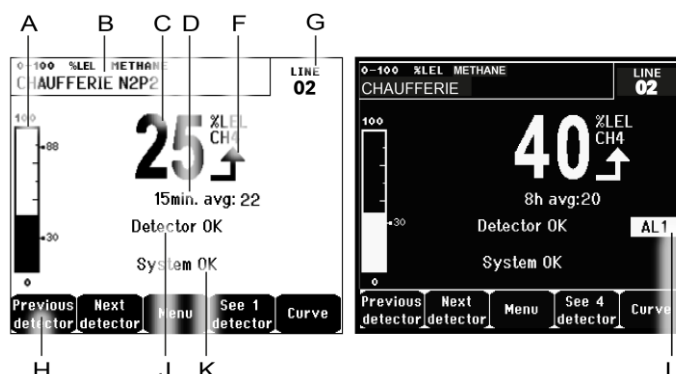
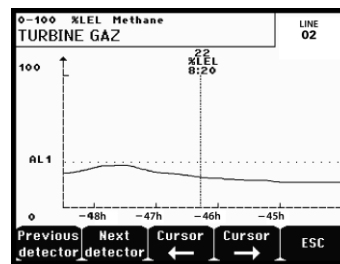

Figure 35: Example of the measurement display in normal mode and in grayscale mode
Figure 36: Example of a curve display screen.
H.	Function keys. <ul style="list-style-type: none"> ■ Previous detector: Display of measurements of previous detector; scanning of all the detectors on all the lines. ■ Next detector: Display of measurements of next detector; scanning of all the detectors on all the lines. ■ Menu: Display of main menu See paragraph "Main menu" on page 35. ■ See 4 Detectors: Display of a group of 4 detectors (detector tag, barograph with indication of alarms, value of current measurement with unit and gas detected). Use the Page down or Page up keys to display all of the next 4 detectors; passage to the next zone is automatic. ■ See 8 Detectors: Display of a group of 8 detectors (detector tag, value of current measurement with unit and gas detected). Other buttons similar to the selection. See 4 detectors. ■ See 1 detector: Display in normal mode (Figure 35). ■ Curve: Display of the measurement curves of the last 4 hours (Figure 36). The → and ← keys allow cursor displacement through the time scale. The vertical dotted line displays the concentration and time stamp of the point being considered. Escape: return to display of values.
- L. Zone of indication of activated alarms with blinking threshold display. The screen changes to inverse video (Figure 35, screen on the right).